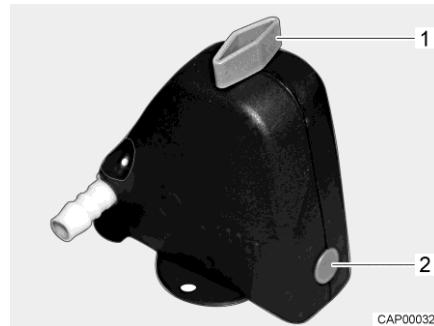
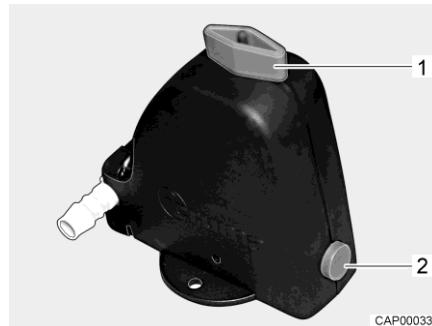

Fig. 71 Safety/drainage valve closed
Fig. 72 Safety/drainage valve open
- Open the safety/drainage valve (Fig. 71). To do this, turn the knob (Fig. 71,1) parallel to the safety/drainage valve. The push button (Fig. 71,2) jumps out. The open safety/drainage valve is shown in Fig. 72.